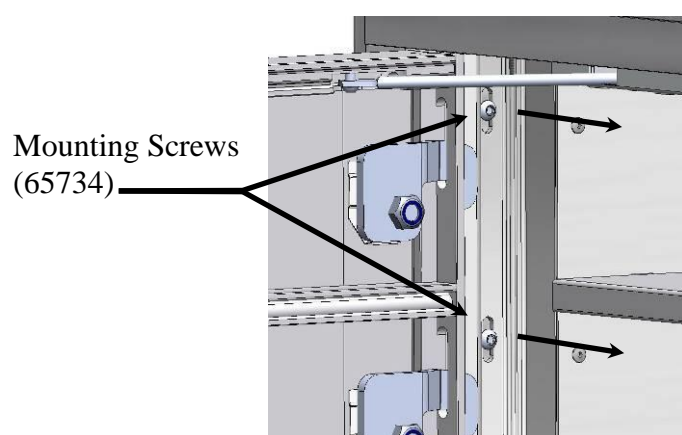

Figure 11 – Remove Left and Right Side Mounting Screws
Step 2 - Remove mounting screws along both sides of the versatile™ 4C unit. (See Figure 11)